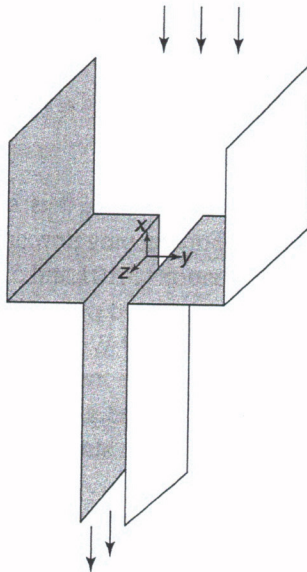

Figure 5.39
32. How do the velocity components simplify for the wide-slit planar-contraction flow shown in Figure 5.39? For a Newtonian fluid, how does the extra-stress tensor simplify as a result of this?